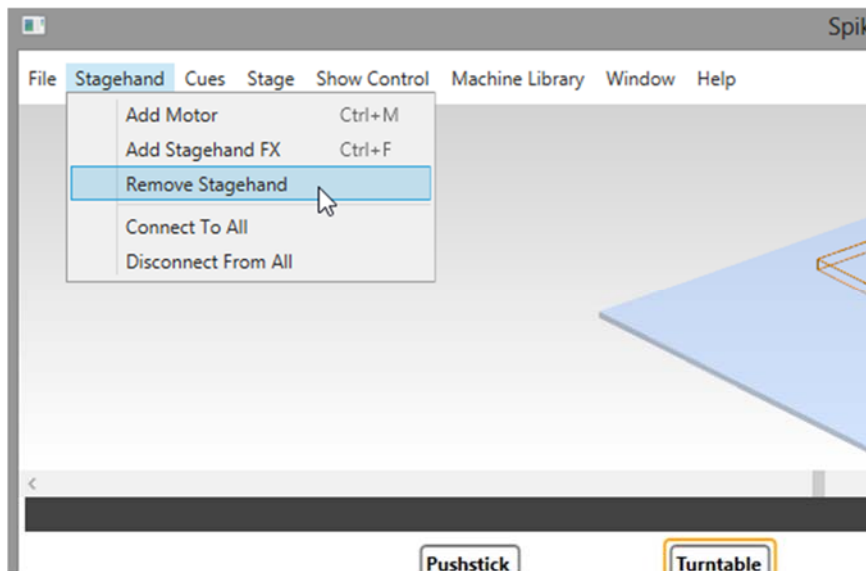

Figure 76
2. With the machine that you wish to remove selected, choose **Remove Stagehand** from the **Stagehand** Menu (Figure 76).